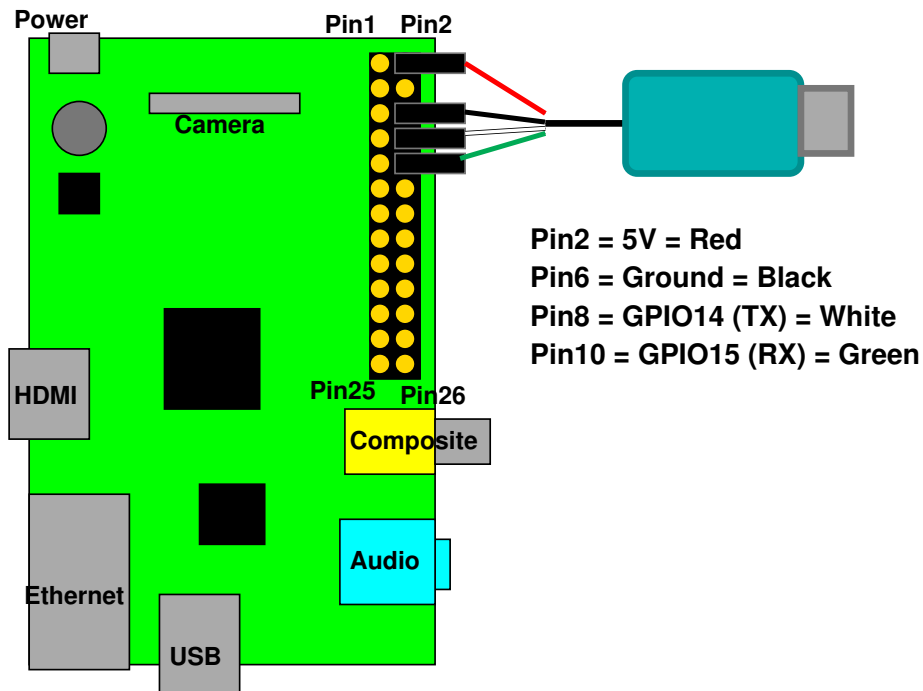

Figure 1: Raspberry Pi Serial Connection
- Connect the serial to USB converter to your Pi as shown in Figure 1. For the model B+ the connectors are similar (the GPIO header is longer but the top half of the pins are the same).